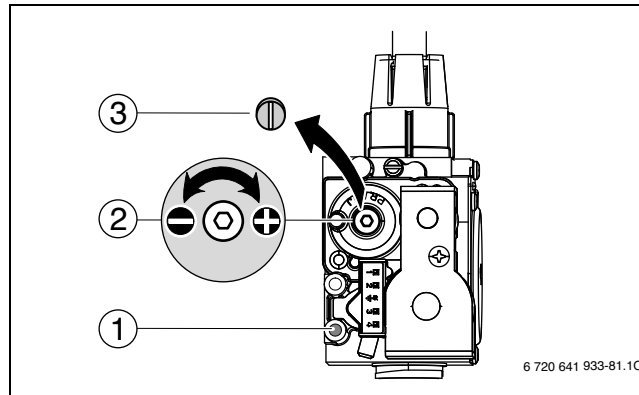

Fig. 79 Setting the CO₂ or O₂ values for minimum nominal output
- ▶ Remove screw (→ Fig. 79, [3]) from the gas valve adjustment screw (→ Fig. 79, [2]) and set CO₂ or O₂ value for minimum nominal output.
- ▶ Reinstall screw (→ Fig. 79, [3]) to cover the adjustment screw (→ Fig. 79, [2]) on the gas valve again.